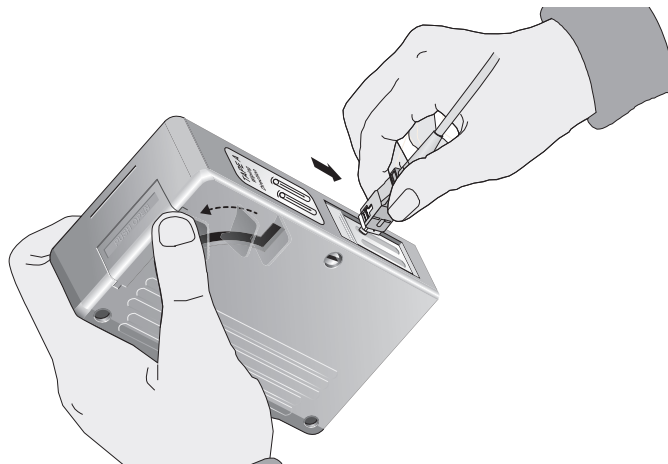

Figure 28. Rubbing the Ferrule Tip on the Cleaning Surface
1. With one hand, hold the cartridge cleaner and push the lever on the cleaning cartridge in the direction of the arrow to expose the cleaning surface, as shown in Figure 28.
2. Place the ferrule tip on the exposed cleaning surface and rub the ferrule in a downward direction, as shown in Figure 28.